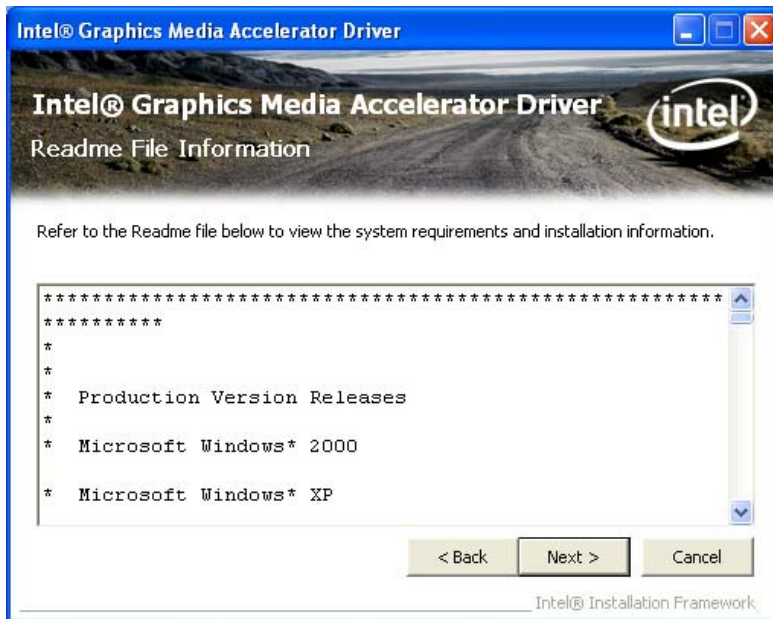

Figure 5-11: Graphics Driver Read Me File
**Step 12:** The Read Me file in Figure 5-11 appears.